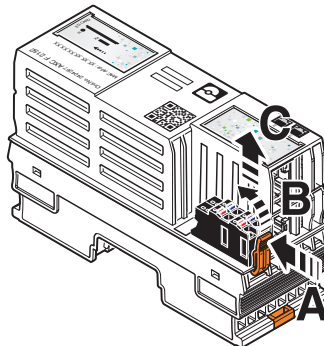

Figure 10-3 Removing the supply connector
- Release the locking latch (A in Figure 10-3), tilt the connector upwards slightly (B in Figure 10-3), and remove it from the controller (C in Figure 10-3).